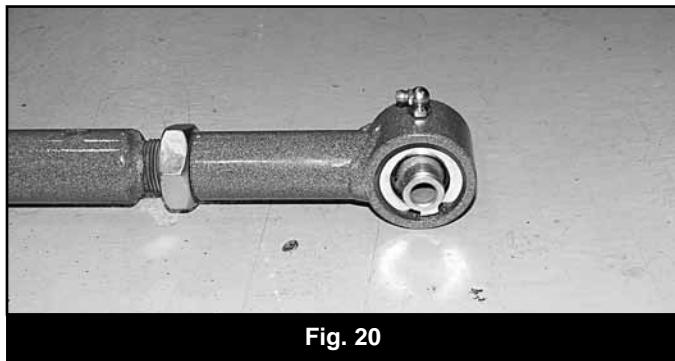

Fig. 20
54. Thread the provided jam nut, followed by the provided assembled flex end (01374) onto the upper control arm (01373). Install the provided grease fittings in the flex ends (Fig 20). Adjust the length of the control arm so that it is 28-3/8" from center of eye to center of clevis (Slide bolt through clevis end to get this measurement).